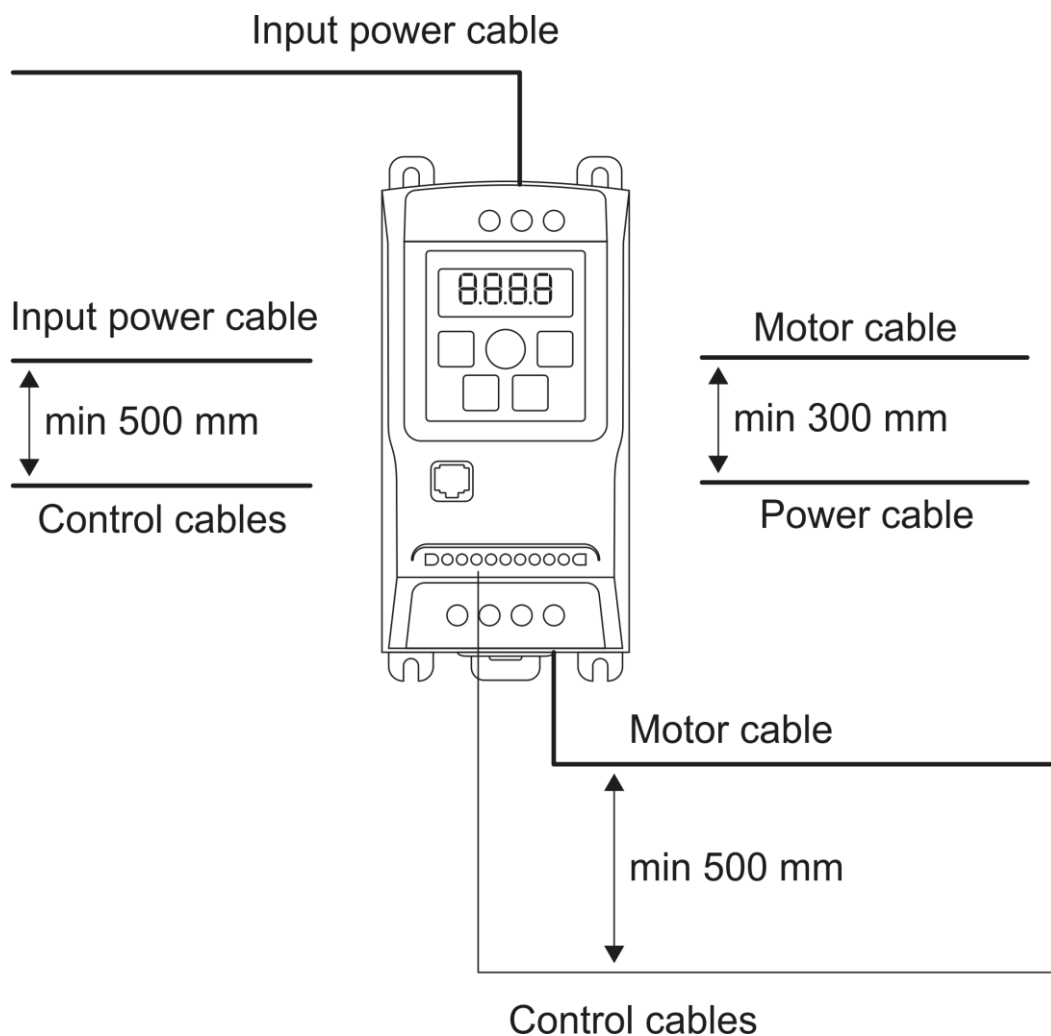

Figure 3.3.3 – Best Practices for cable routing.
- When power cables to supply the inverter and/or other equipment are installed in trays parallel to the motor cable tray, ensure a distance of at least 300 mm between them, as shown in Figure 3.3.3.